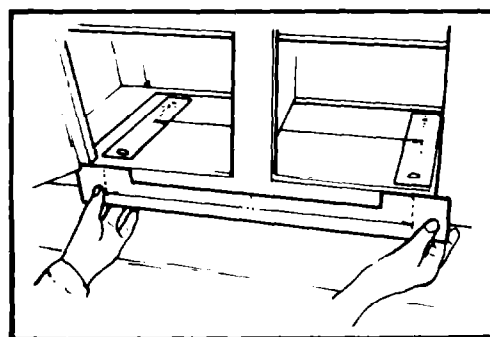

Fig. 11
- Adhere Template 2 inside the cabinet with scotch tape. (Fig. 11)